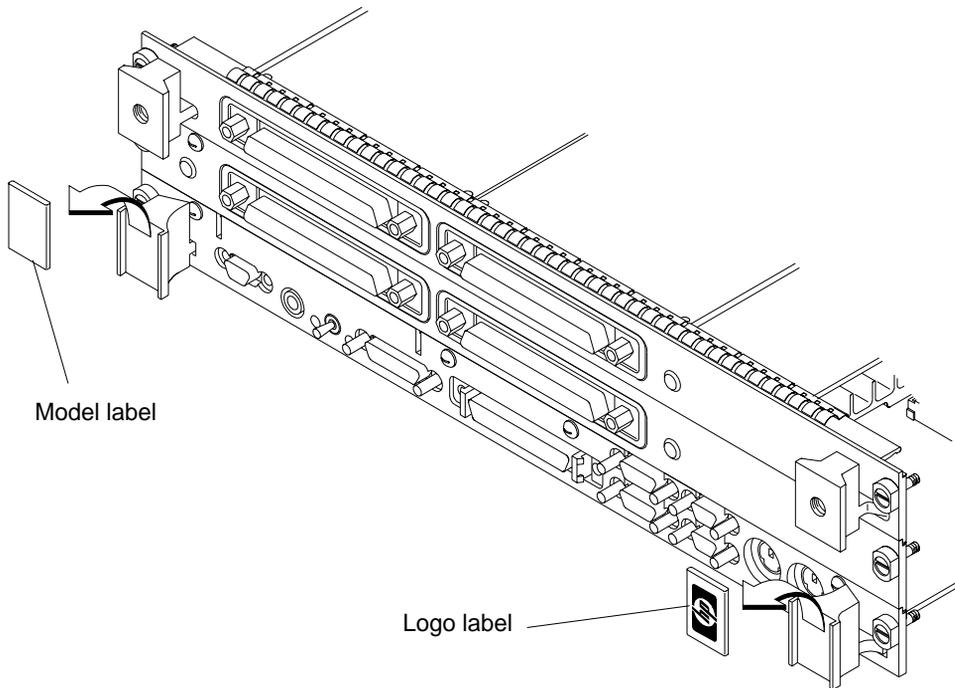

Figure 2-11
- a** Remove the logo and model labels from the ejector handles on your board computer, as shown in Figure 2-11.